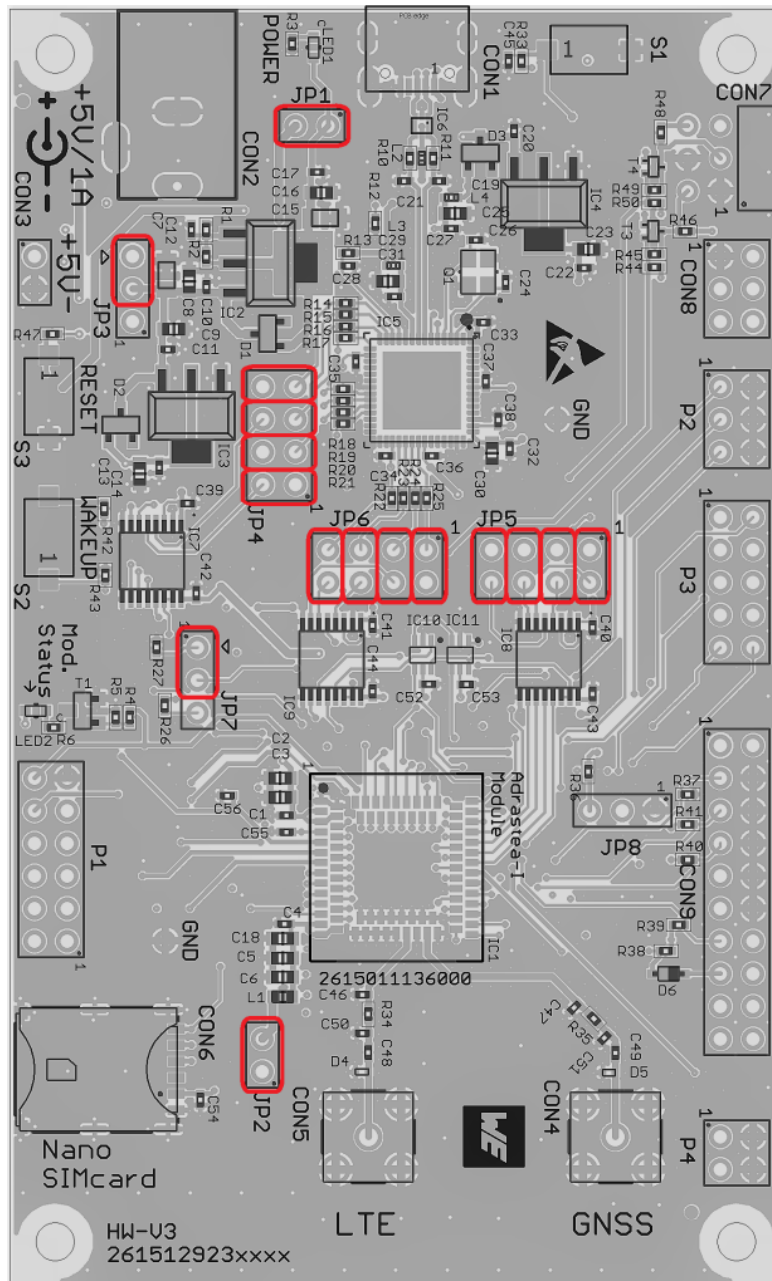

Figure 6: Jumpers, default
- Step 1: To run the evaluation board place the jumpers on default location, as shown in figure 6.